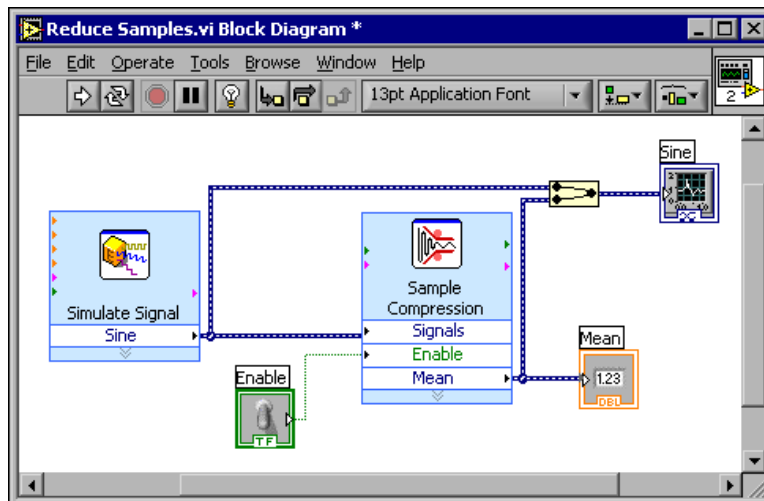

Figure 2.32
In a previous exercise (Section 2.5), you added controls and indicators to the front panel using the Controls palette. You also can add controls and indicators from the block diagram. Complete the following steps to create controls and indicators as shown in Figure 2.32.
6. Arrange the objects on the block diagram so that they appear similar to Figure 2.32.